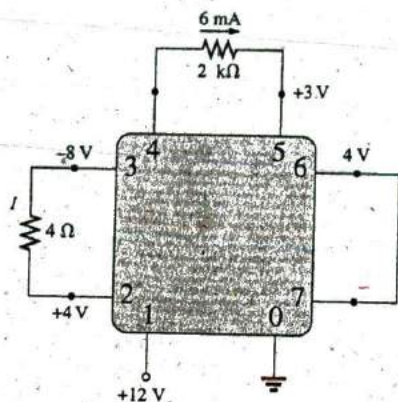

FIG. 5.124
*41. For the integrated circuit in Fig. 5.124, determine $V_0, V_4, V_7, V_{10}, V_{23}, V_{30}, V_{67}, V_{56}$, and I (magnitude and direction.)